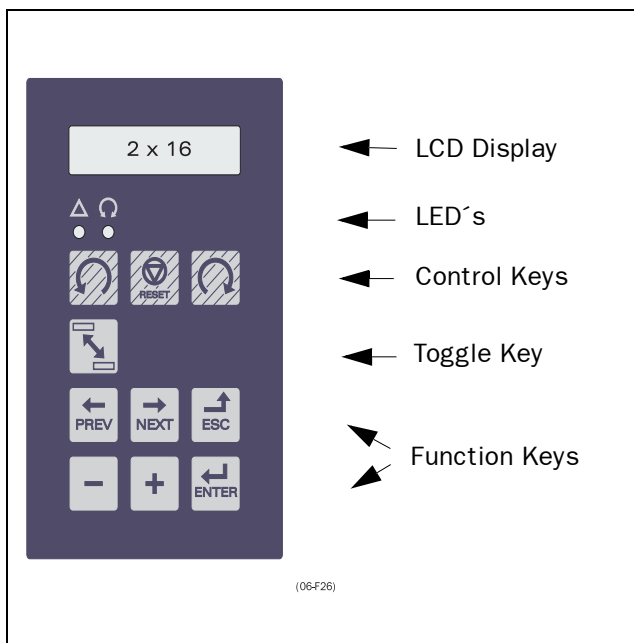

Fig. 15 Control Panel.
Fig. 15 shows the Control Panel (CP). The Control Panel displays the status of the inverter and is used to program all the settings. It is also possible to control the motor directly from the Control Panel.